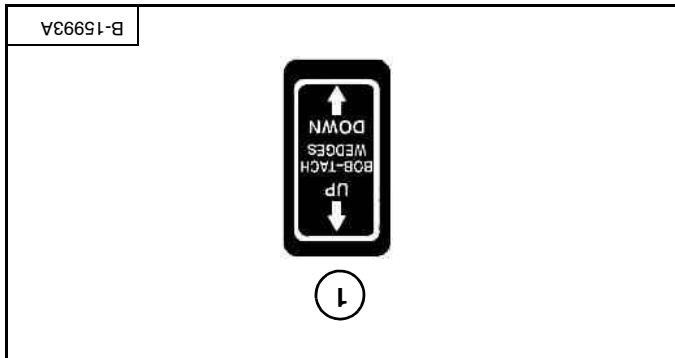
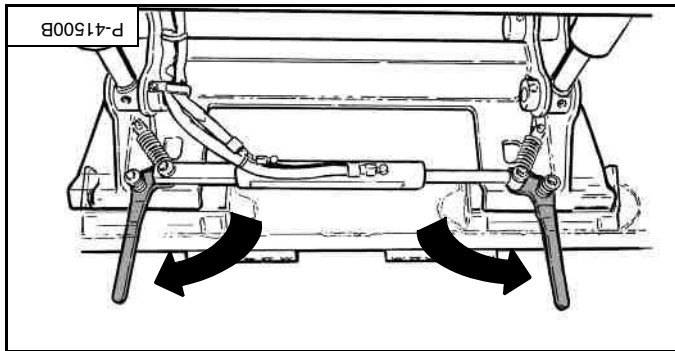

Figure 70
Figure 71
Push and hold the BOB-TACH "WEDGES UP" switch (item 1) [Figure 70] (Front Panel) until the levers [Figure 71] are fully raised (wedges fully raised).